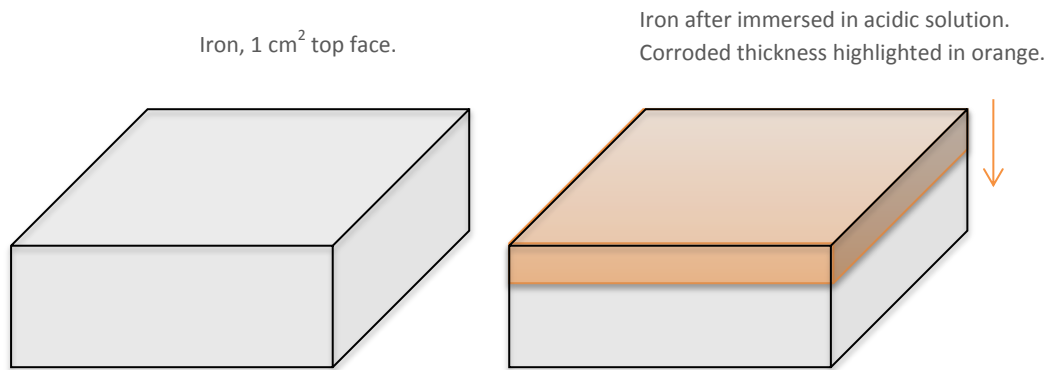

Figure 1. Schematic representation of uniform corrosion in iron.
- The corroded thickness after a day, assuming that the face exposed to the solution (Fig. 1) corrodes uniformly (density of iron: 7.87 g/cm^3).